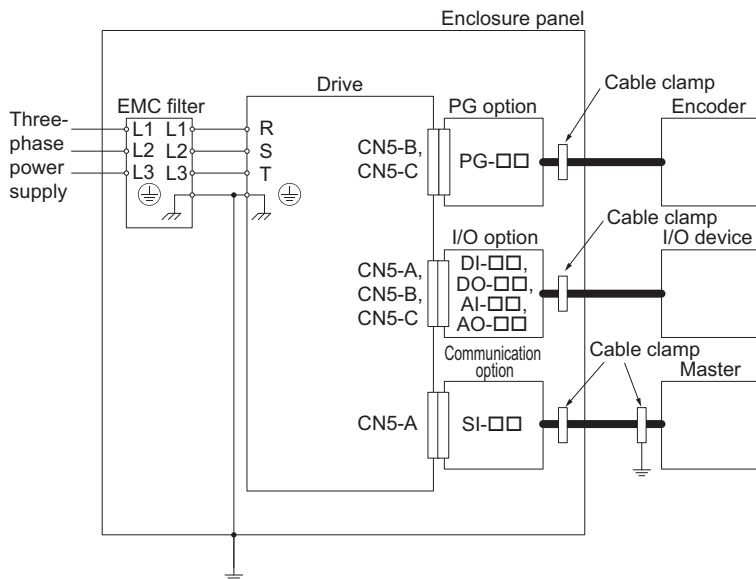
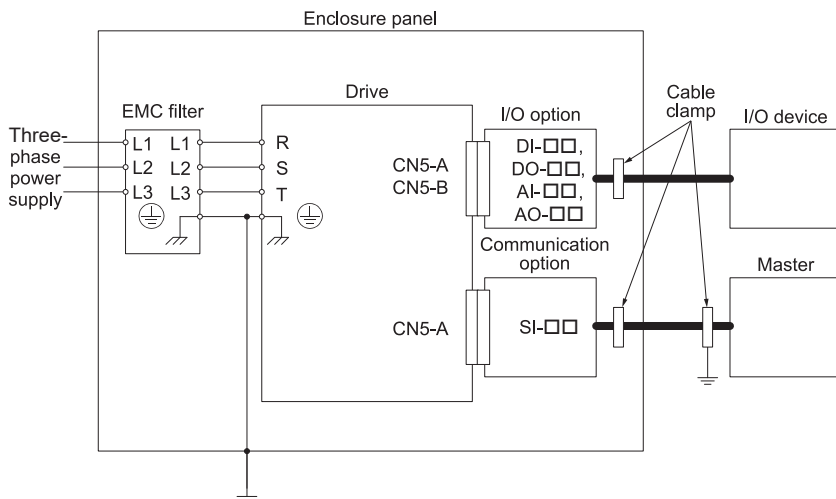

Figure 31 Option Installation for CE Compliance: 1000-Series, GA700, GA800, CR700, CH700, LA700
Figure 32 Option Installation for CE Compliance: FP605
2. Keep wiring as short as possible and ground the largest possible surface area of the shield to the metal panel according to Figure 31 and Figure 32.